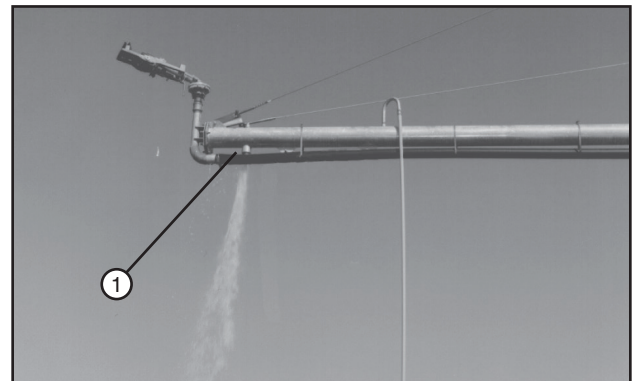

Figure 91-3 1. Sand Trap
5. Remove plugs from the overhang drains. Clean sand and foreign particles from these drains. Turn the rubber drain seal over when reinstalling. See figure 91-3.